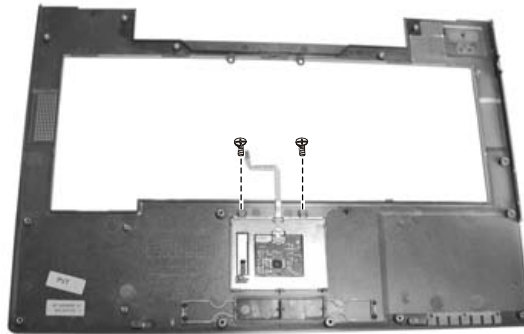

Figure 2-32 Remove the two screws
3. Remove the two screws and free the touch pad. (Figure 2-32).